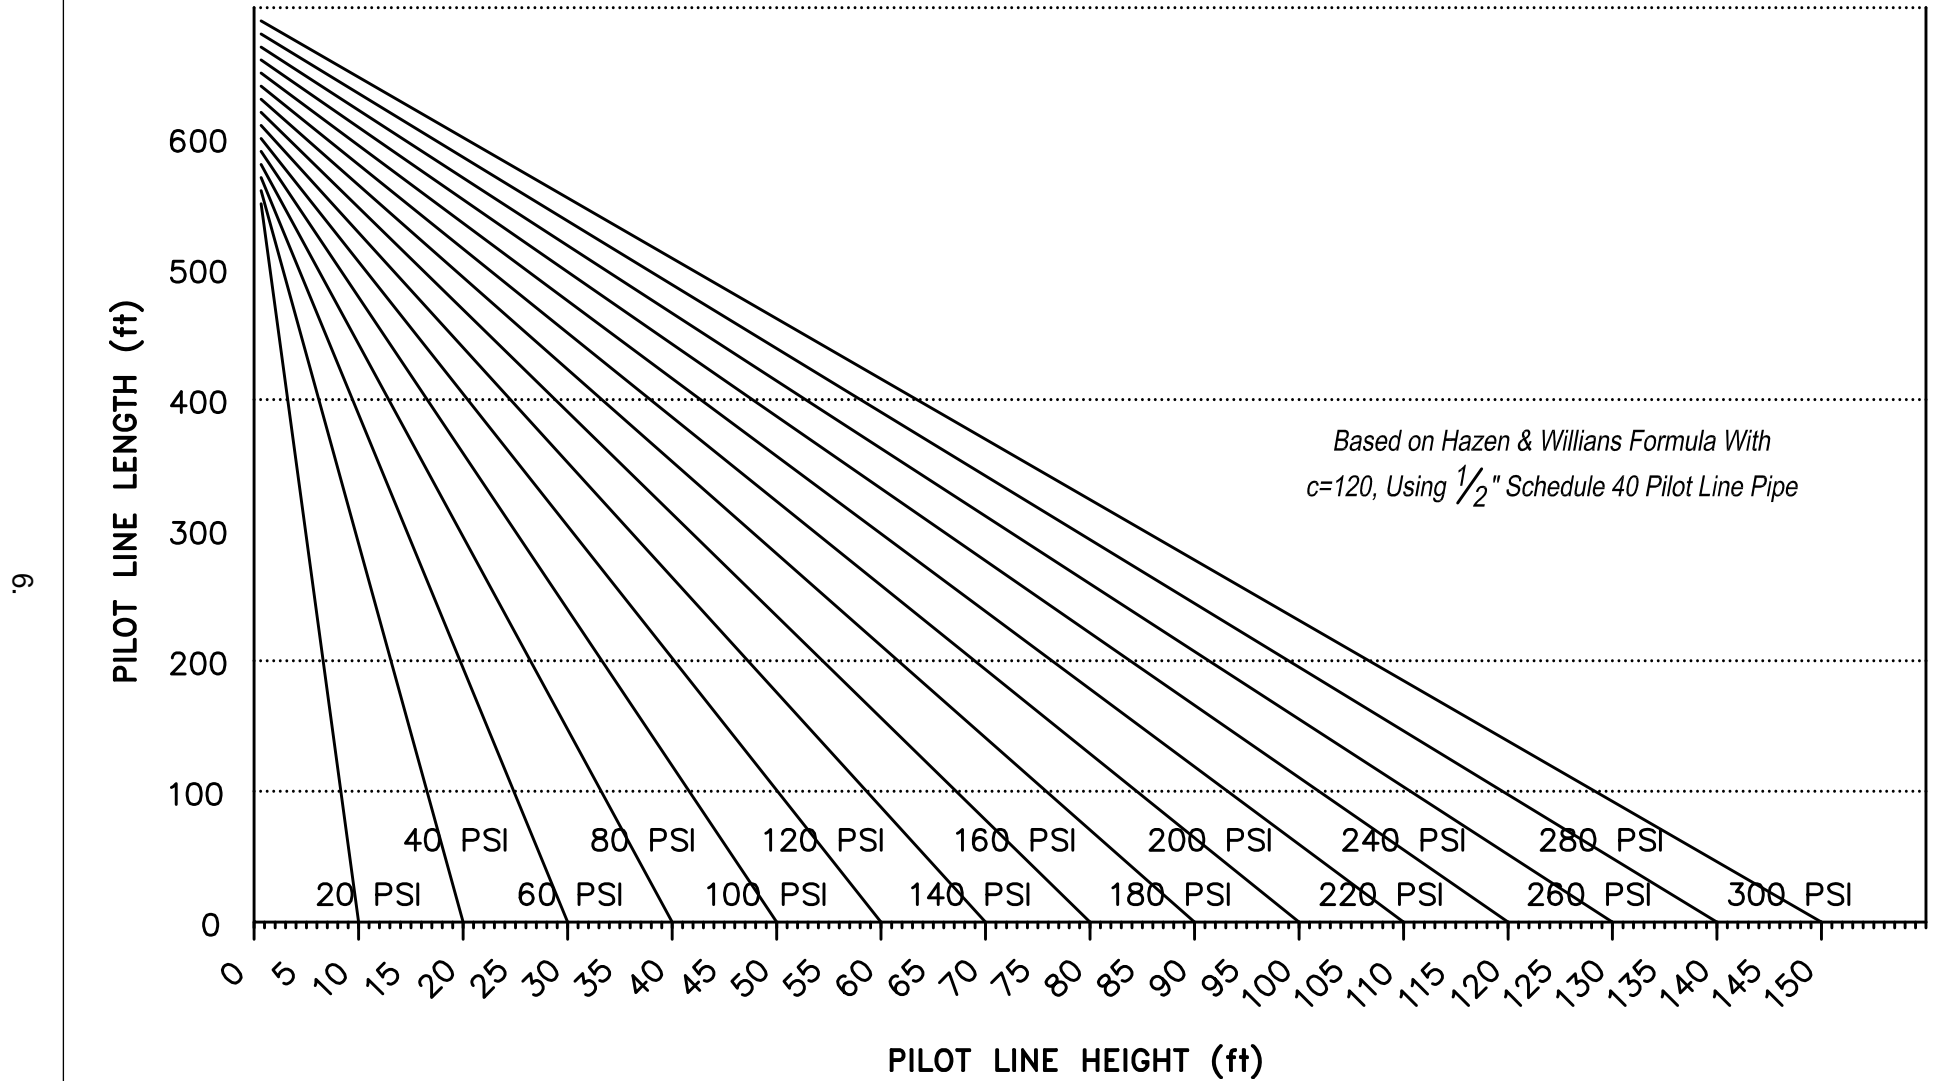

Fig. 2
- Maximum wet pilot line length and height must comply with data provided in Fig. 2.